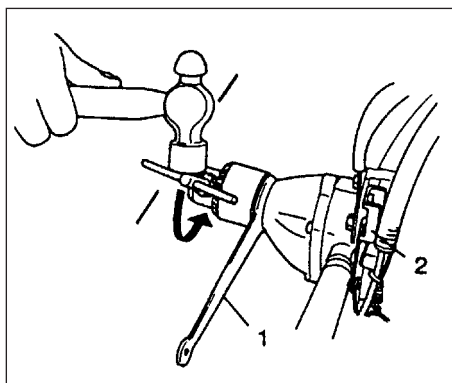

Fig. 2-6
- To tighten the chuck more securely, set a 19mm spanner (1) between gear case and drill chuck to lock drive shaft. Turn on lock lever (2) then hit the mounted chuck handle with a hammer to screw in (clockwise) the chuck. (TED-270PFL/270PFLS/270PFDH/270PFDLS/270PFHS) (Fig. 2-6)